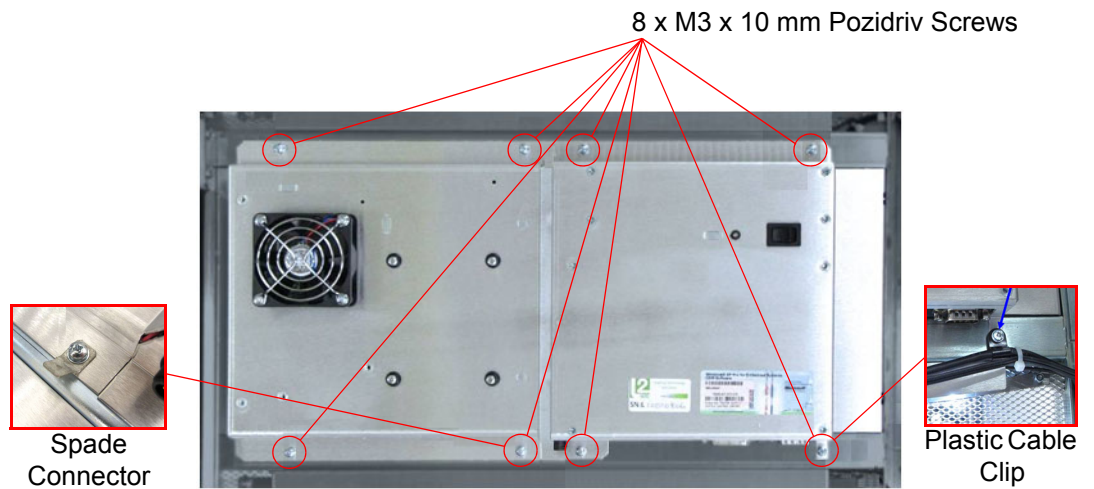

Figure 66 Refit the Door PC Fixing Screws
9. Refit the 8 x M3 x 10 mm screws (see Figure 66). Make sure the spade connector and plastic cable clip are fitted.